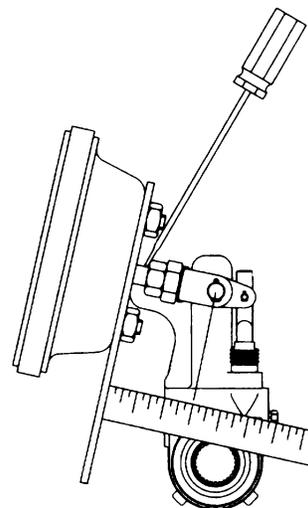

Figure 5 – Free Stroke
4. Free stroke is the amount of movement of the slack adjuster required to move the brake shoes against the drum. With brakes released, measure from the face of the chamber to the center of the clevis pin. Use a ruler to measure the movement of the slack adjuster until the brake shoes contact the drum (fig. 5). The difference between the released and applied measurements is the free stroke. The free stroke should be 3/8" to 5/8".